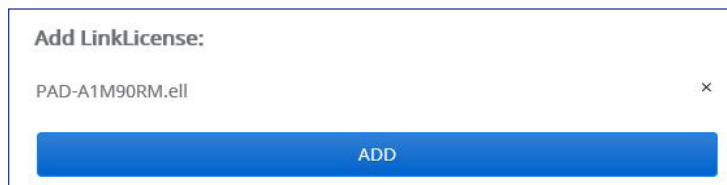

Figure 37. Add LinkLicense Button
3. Click **Open**. The window closes and the LinkLicense dialog box reopens showing the LinkLicense file in the file name field (see figure 37).